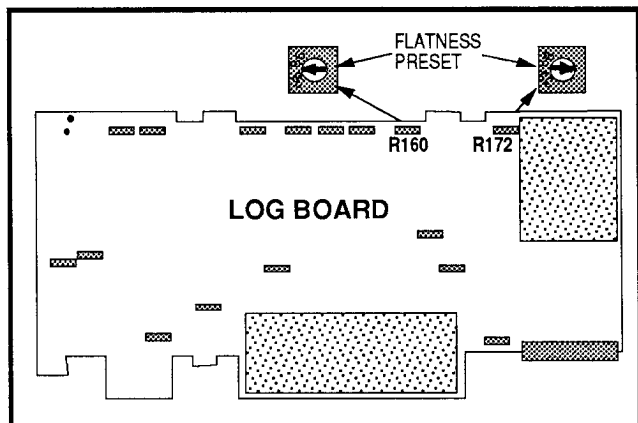

Figure 4-9. Presetting the flatness adjustments on the Log board.
e. Preset R160 and R172 on the Log board as shown in Figure 4-9.